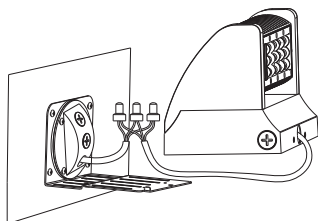

Figure 3-5
5.make wiring connection and go through isolation treatment. (Figure 3-5)